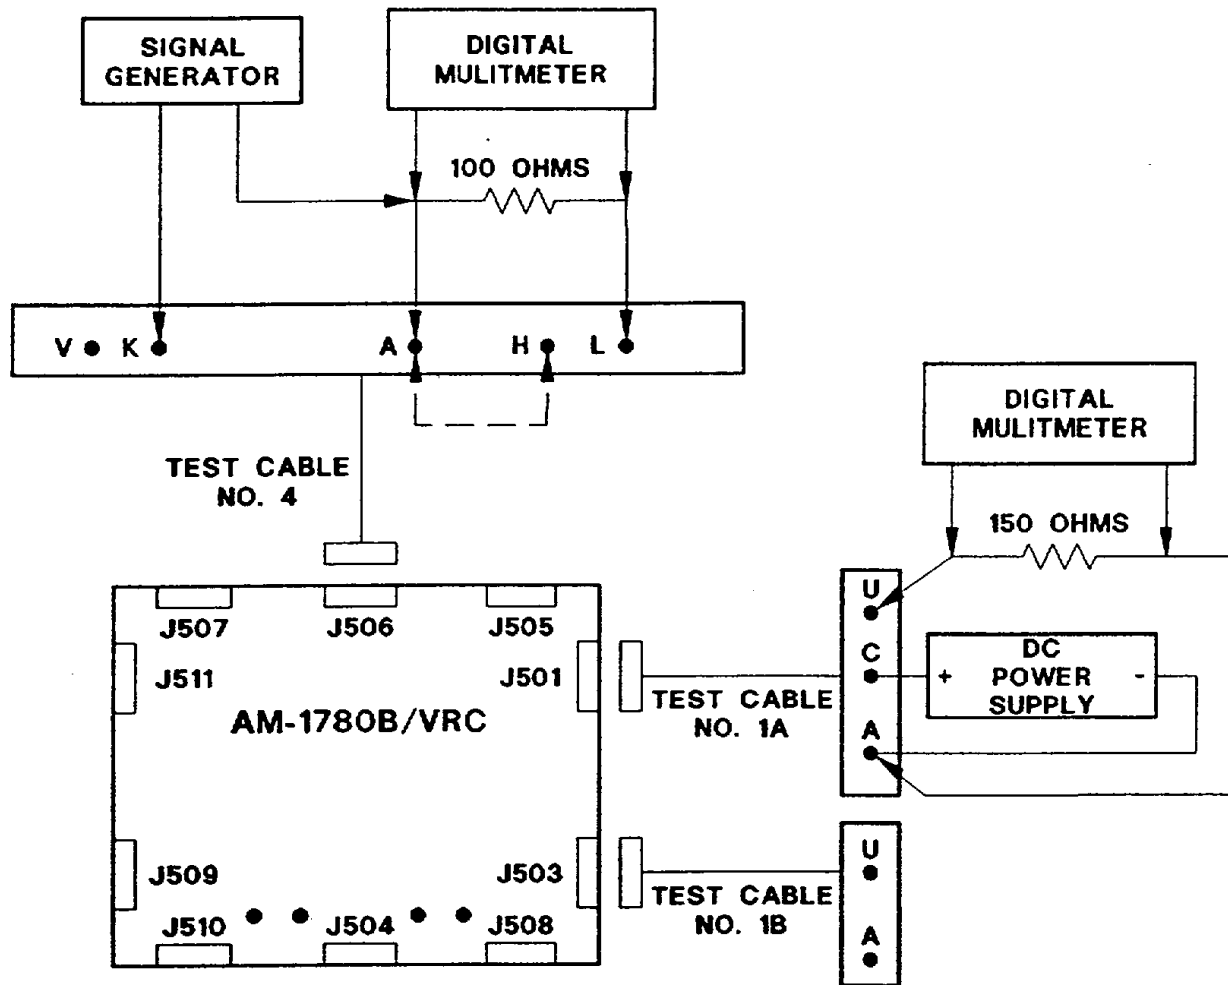

Figure 2-12. DS Test Setup L.
- a. Connect a 100 ohm resistor between J506-L and ground (fig. 2-12). Connect a digital multimeter, set to measure ac volts, across the 100 ohm resistor.